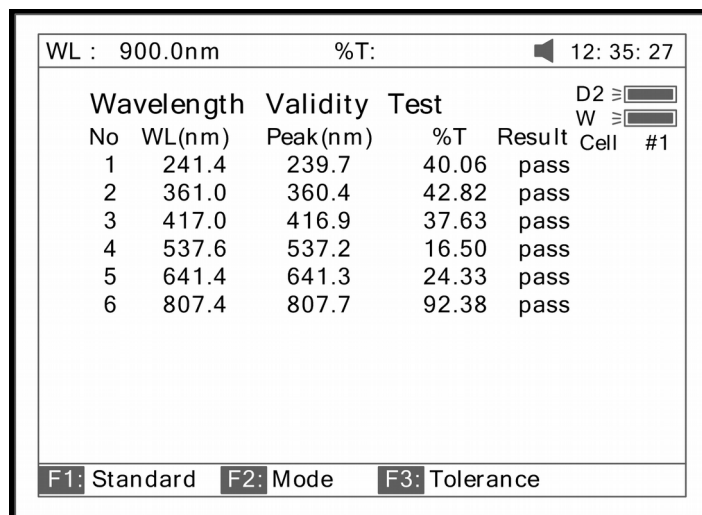

Fig 99
5. Put the sample (calibrated holmium liquid) into Main Light Path. Press **(START)** to check. The results will be displayed on the screen (Fig 99). If the discrepancy between the results and the calibrated values is not more than the tolerance, "pass" will be displayed after the test results. Otherwise, "fail" will be displayed.